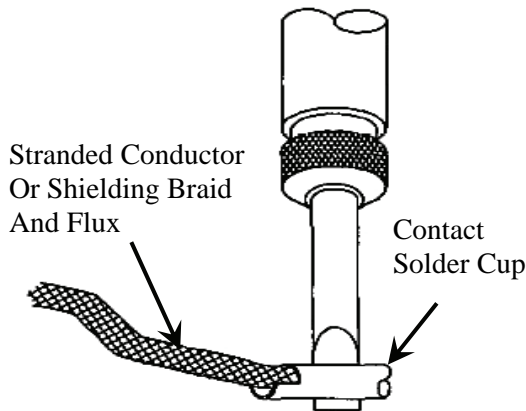

Figure 4. Removing Solder from Solder Cup by Wicking
b. When wicking with stranded conductor or braided shield place wire on soldered connection and apply heat using soldering iron (Figure 4).